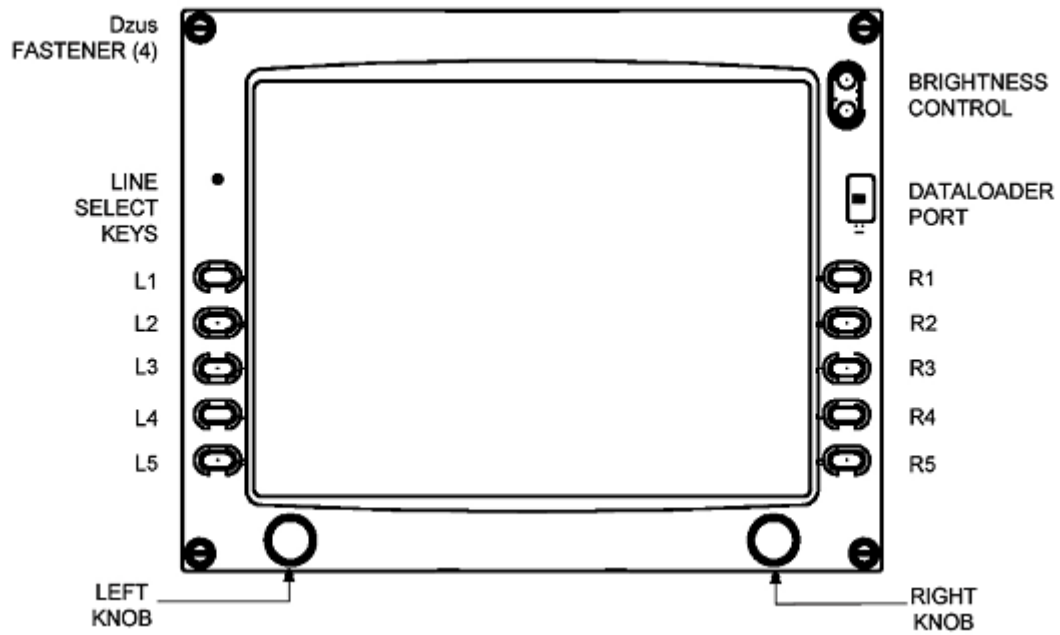

Figure 6: EX5000 Landscape Front View
4. Simultaneously press and hold buttons L1 (top left) and L3 (3rd down on the left) (See Figure 6 on page 30) for at least 5 seconds.